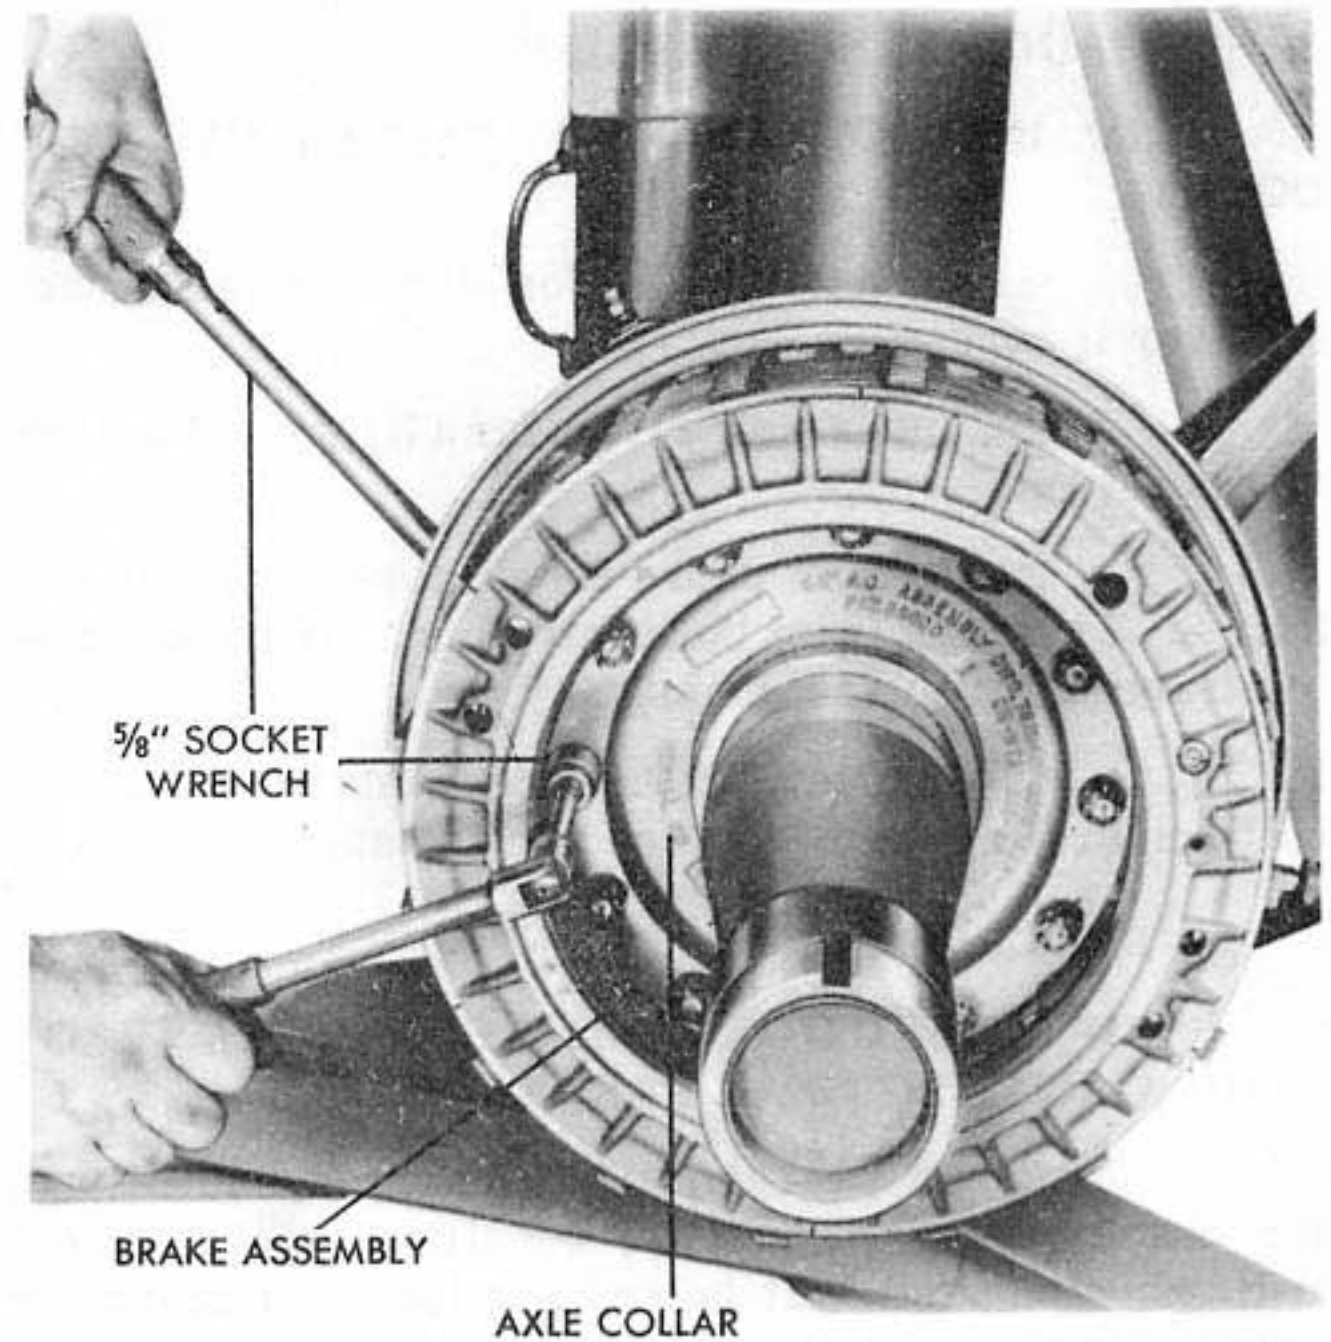

Figure 72 - REMOVING BRAKE
(7) REMOVAL OF BRAKES. (See figure 72.)